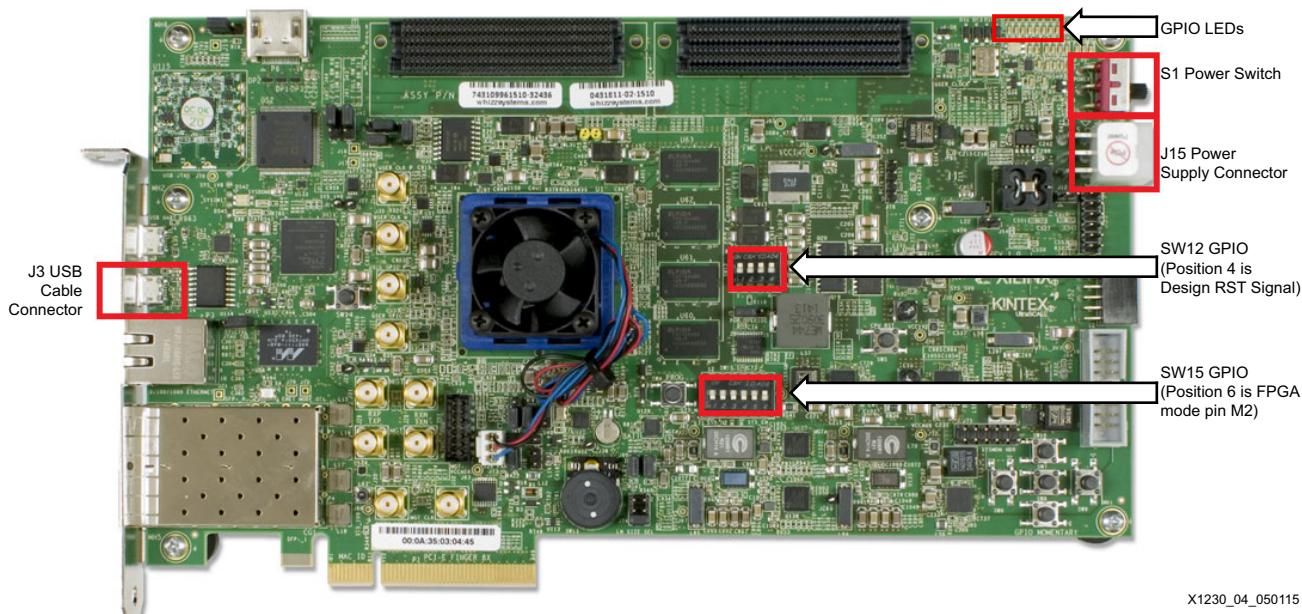

Figure 4: KCU105 Development Board Setup
Before performing the readback capture on the reference design included in this application note, the board setup shown in Figure 4 should be used.
2. Set the general-purpose I/O (GPIO) switch SW12 to 1111 as shown in Figure 4.
Switch SW12 position 4 is the RST reference design signal and can be used to reset the reference design count. By default, this should be off and set as shown in Figure 4.
3. Set the switch SW15 to 000001 as shown in Figure 4.
This application note includes a simple 8-bit counter reference design to demonstrate how to use the logic location file to identify the user state of the design's eight CLB registers. In this reference design, an 8-bit counter is implemented with CLB registers, and the value is displayed on the eight GPIO LEDs shown in Figure 4.